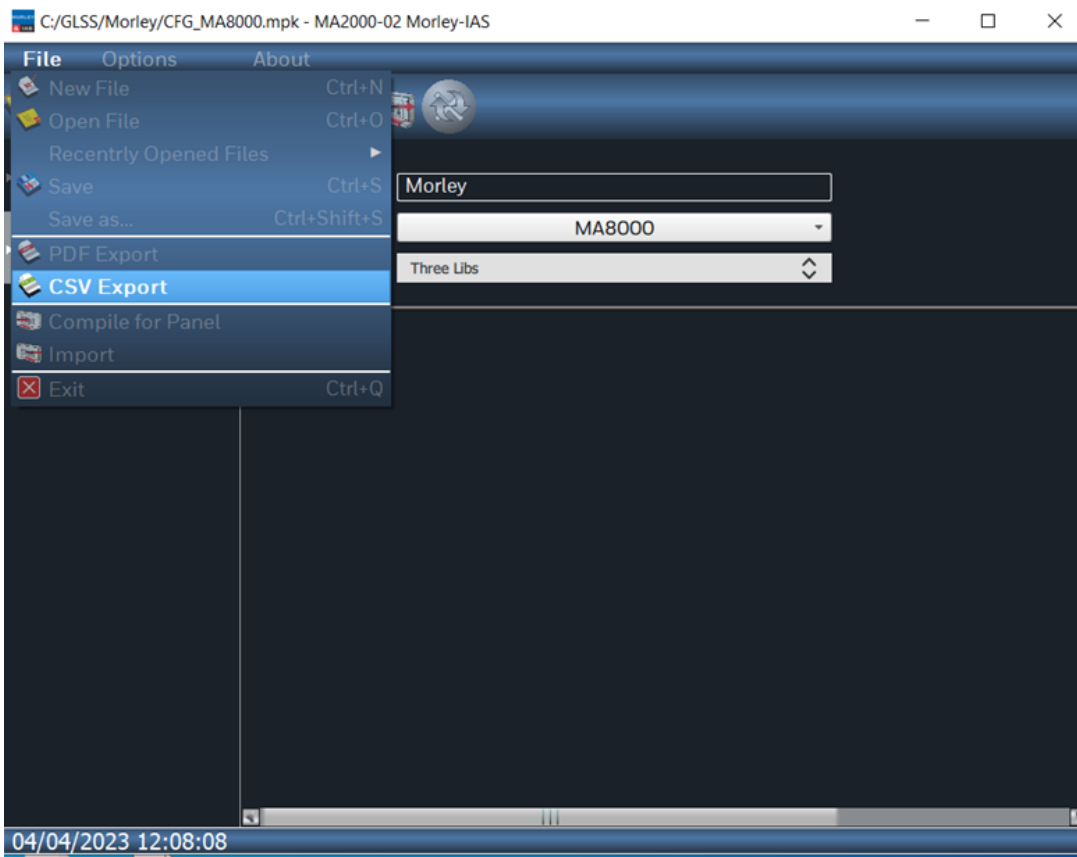

Figure C-43: Configuration File Export into CSV Format
- Now export the file into CSV format as shown in Figure C-43: Configuration File Export into CSV Format